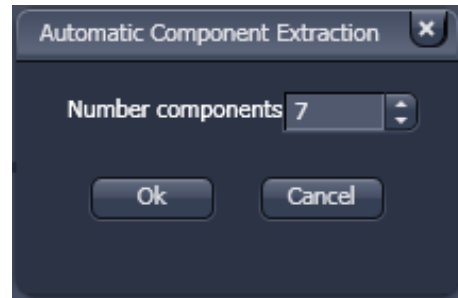

Fig. 691 ACE, number of components selection window
- Select the number of components in the sample and click **Ok** (Fig. 691). If a subset of existing spectra has been already defined by manual ROIs or by spectra from the spectra database, the number of remaining components is selected for ACE.